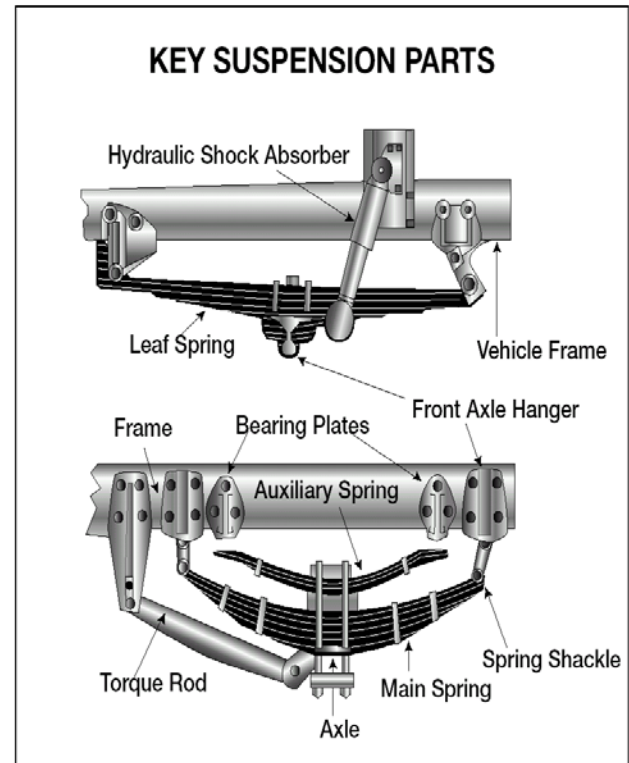

Figure 2.2
- Spring hangers that allow movement of axle from proper position. **See Figure 2.2.**